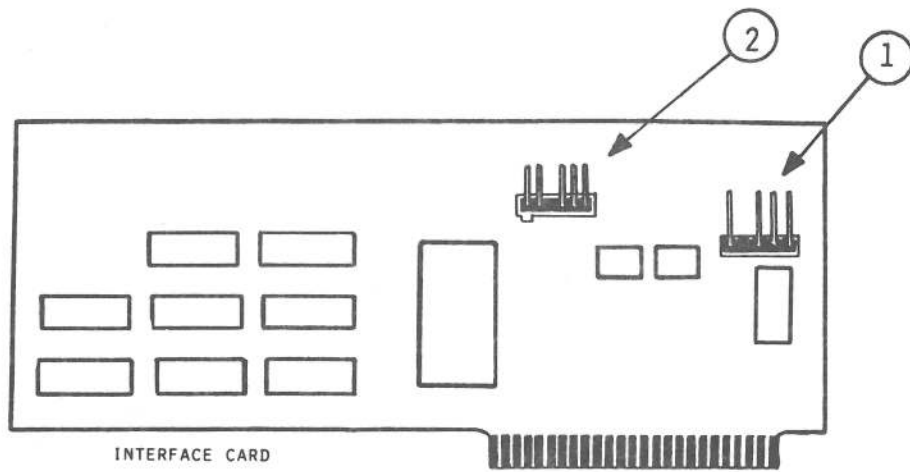

FIGURE 2
2. Locate a set of four pins near the top right edge of the interface card (see Figure 2, #1) and slide the slip-on connector onto the pins.
4. Slide this connector onto the second set of pins (see Figure 2, #2) on the interface card to the left of the first cable you connected.